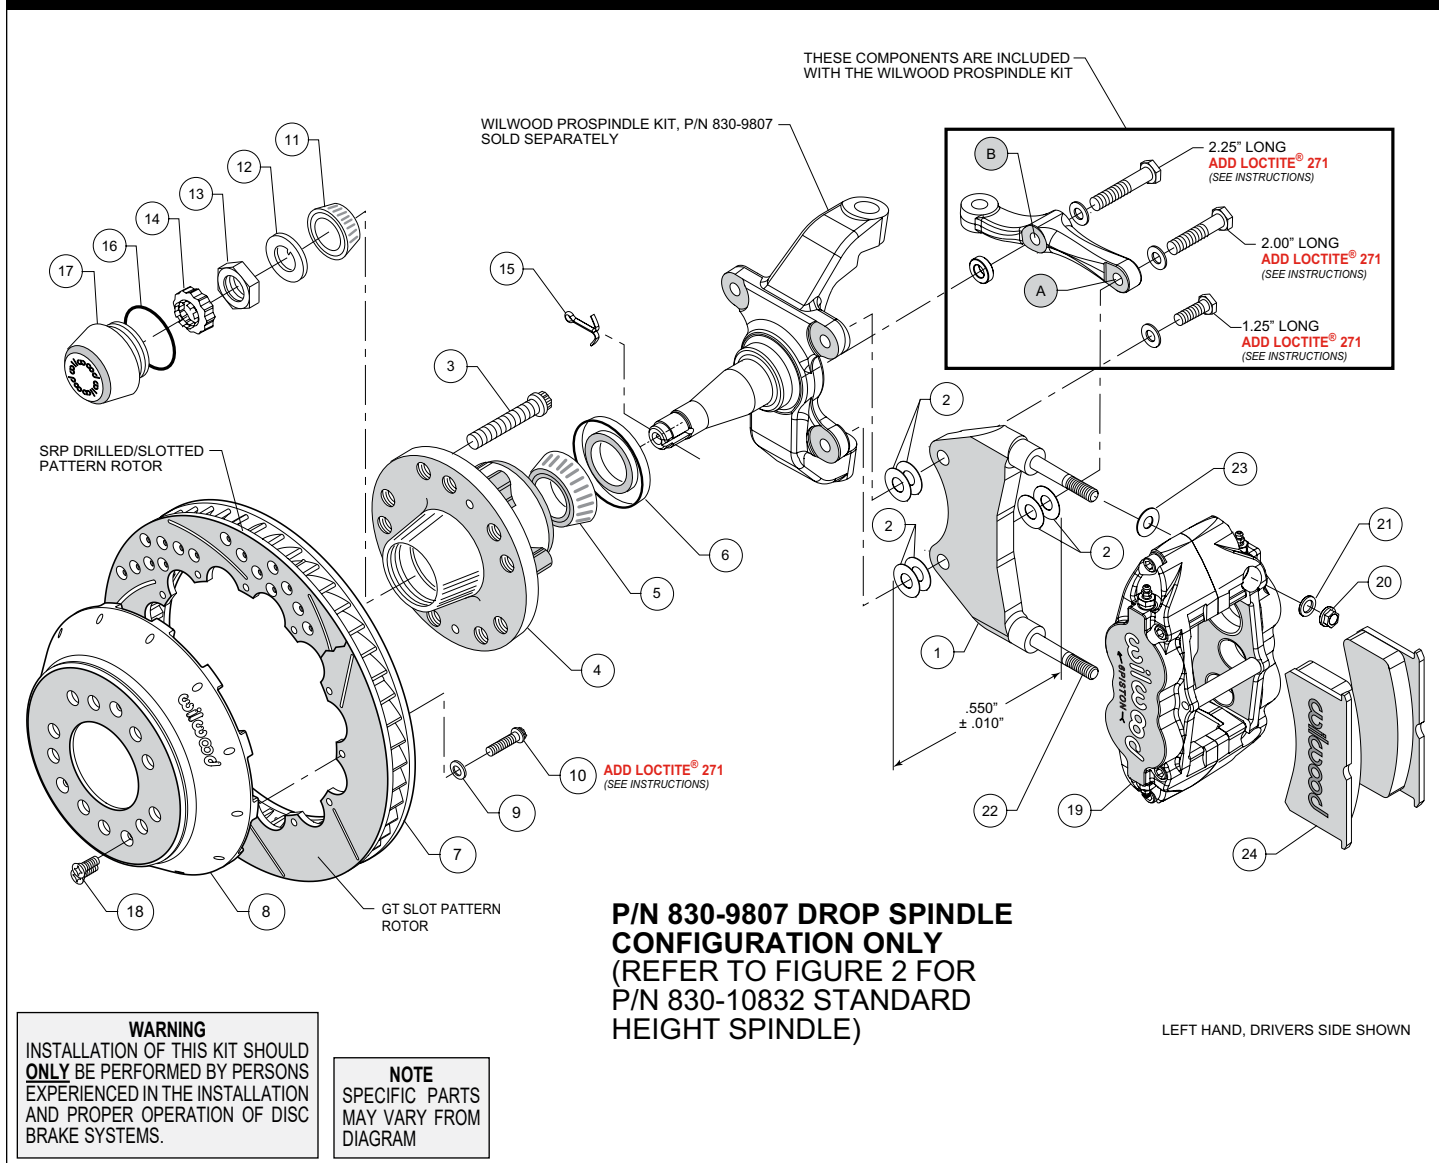
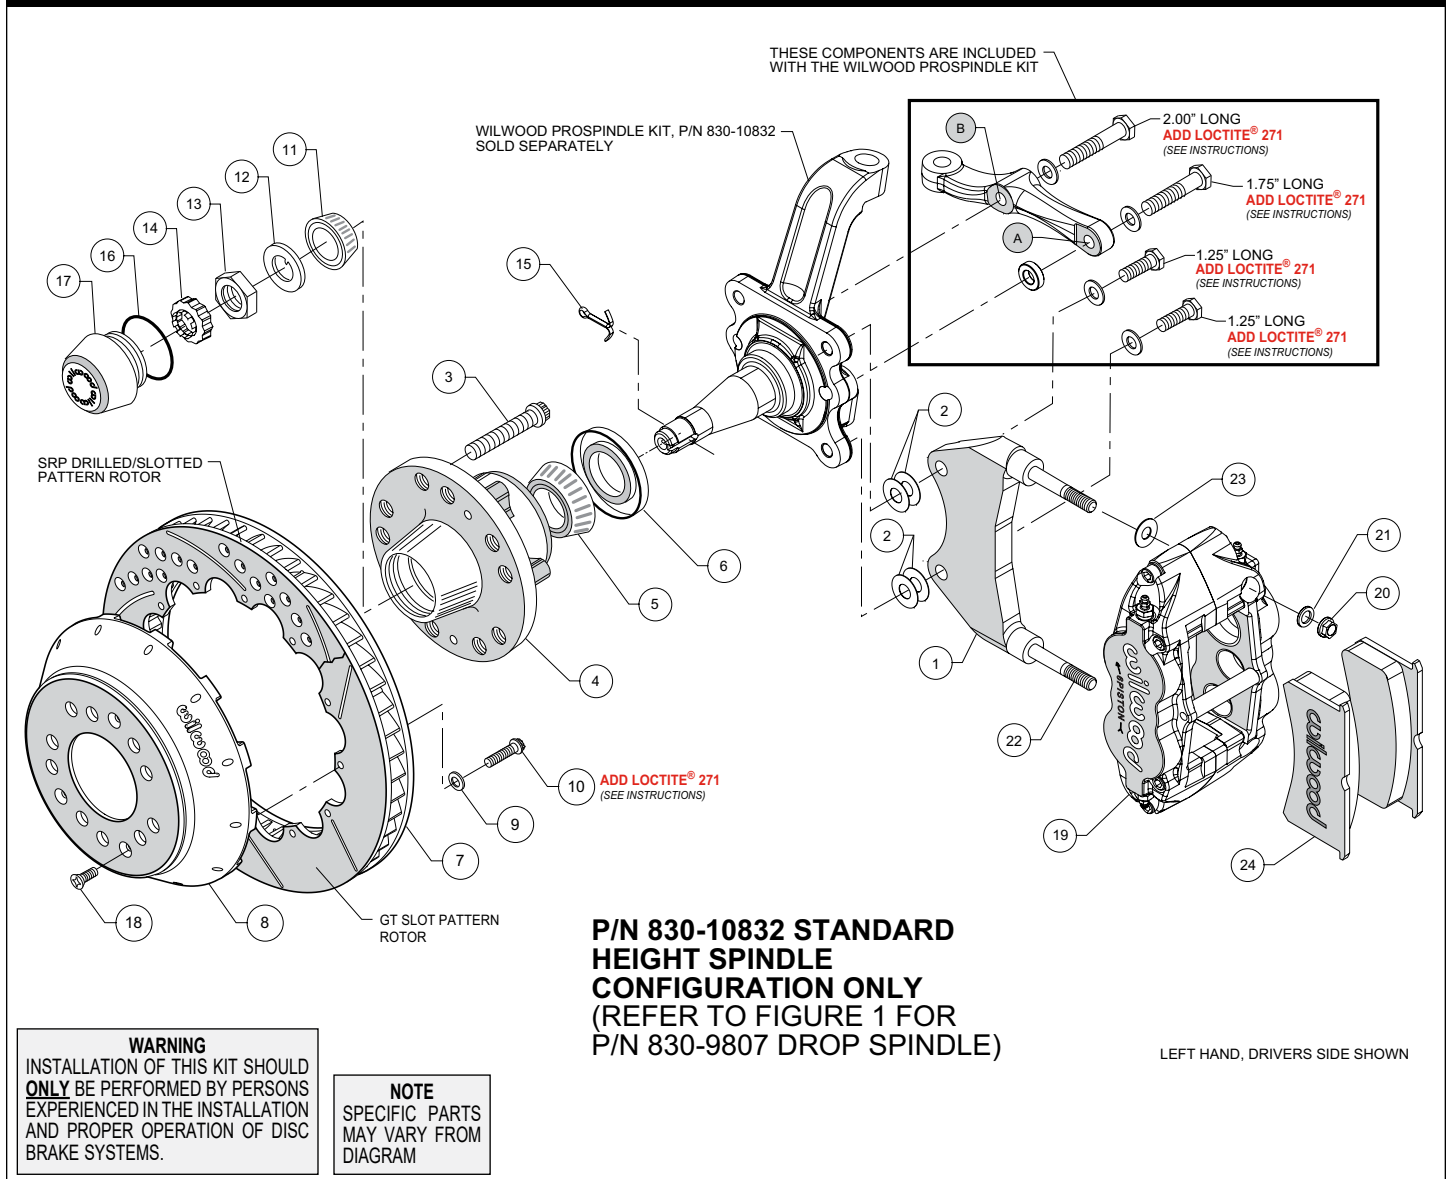
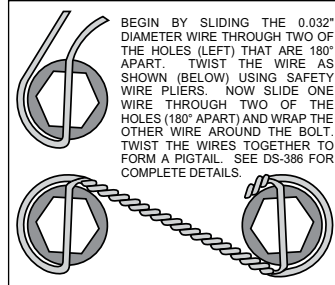

Figure 1. Installation Configuration For Drop Spindle, P/N 830-9807
Figure 2. Installation Configuration For Standard Height Spindle, P/N 830-10832
Figure 4. Safety Wire Diagram
**NOTE:** Numbers in parenthesis refer to the parts list and Figure 1 on the preceding pages.
•**NOTE:** Each Wilwood ProSpindle kit includes bolts, washers, and a spacer to mount the steering arm and caliper bracket. The various bolts are identified by length in the following instructions and in Figures 1 and 2.
**For 2" Drop ProSpindle (P/N 830-9807):** The caliper bracket assembly (1) should initially be installed with clean, dry threads on the mounting bolts.
- Orient the bracket as shown in Figure 1 and Photo 1. Install at top spindle hole using 1.25" long bolt and .06" thick washer (from ProSpindle kit), and two .016" thick shims (2) between the bracket and spindle, Figure 1.
- Orient the steering arm, and identify the hole marked 'A', as shown in Figure 1. Install at bottom spindle hole using 2.00" long bolt and .06" thick washer (from ProSpindle kit), two .016" thick shims (2) between the bracket and steering arm, and another two .016" thick shims (2) between the bracket and spindle, Figure 1. The bracket is located between the steering arm and spindle. **NOTE:** The bracket and shim washers must add up to a total thickness of .550" ± .010", Figure 1.
- Finish attaching the steering arm through the hole marked 'B', as shown in Figure 1. Install using 2.25" long bolt, .06" thick washer, and .25" thick spacer (all from ProSpindle kit), Figure 1.
**For Standard Height ProSpindle (P/N 830-10832):** The caliper bracket assembly (1) should initially be installed with clean, dry threads on the mounting bolts.
- Orient the bracket as shown in Figure 2 and Photo 2. Install using 1.25" long bolts and .06" thick washers (from ProSpindle kit), and two .016" thick shims (2) on each bolt between the bracket and spindle, Figure 2. Temporarily tighten mounting bolts. **NOTE:** The bracket must fit squarely against the mounting points on the spindle. Inspect for interference from casting irregularities, machining ridges, burrs, etc. Later, after the caliper alignment has been checked, the mount bolts will be secured using red Loctite® 271.
- Orient the steering arm, and identify the hole marked 'A', as shown in Figure 2. Install using 1.75" long bolt, .06" thick washer, and .30" thick spacer (all from ProSpindle kit), Figure 2.
- Finish attaching the steering arm through the hole marked 'B', as shown in Figure 2. Install using 2.00" long bolt and .06" thick washer (from ProSpindle kit), Figure 2.
- Screw dust cap (17) into hub (4). Friction created by the o-ring (16) on the dust cap keeps it from unscrewing.
- Orient the rotor (7) and the hat (8) as shown in Figures 1 or 2, and Photo 6. Attach rotor to hat using bolts (10) and washers (9). Apply red *Loctite*® 271 to the bolt threads and torque to 155 in-lb using a criss-cross pattern. For an added measure of security, the bolts may be safety wired using standard 0.032 inch diameter stainless steel safety wire as shown in Figure 4. Refer to Wilwood's data sheet DS-386 (available at [www.wilwood.com/Pdf/DataSheets/ds386.pdf](http://www.wilwood.com/Pdf/DataSheets/ds386.pdf)) for complete safety wire installation instructions.
- Slide the hat/rotor assembly (8 and 7) onto the hub (4) taking care to align the small countersunk holes in the hat with the small threaded holes in the hub. **NOTE:** The hat must fit flush against the hub face or excessive rotor run out may result. Install three flat head screws (18) through the small holes in the hat (8), and torque to 85 in-lb.
- NOTE:** This kit contains distinct right and left hand calipers that must be mounted in a specific direction, as described below. Initially place one .035" thick shim (24), and spacer (23) on each stud (22) as shown in Figure 1 or 2, and Photo 7. Mount the caliper (19) onto the bracket (1) using lock nuts (20) and washers (21), Figure 1 or 2. Ensure that the caliper is mounted so that the largest pistons are at the rotor exit end of the caliper, in relation to the direction of rotor rotation. Temporarily tighten the lock nuts and view the rotor through the top opening of the caliper. The rotor should be centered in the caliper, Photo 8. If not, proceed as follows:
- Adjust by adding or subtracting shims (2) between the bracket and the spindle. Always use the same amount of shims on each of the two bolts between bracket and spindle.
- For the lower bracket mount bolt, if a shim was added between the bracket and spindle, then a shim must be removed between the steering arm and bracket, such that the total thickness of bracket and shims remain equal to  $.550 \pm .010$ ", Figure 1.